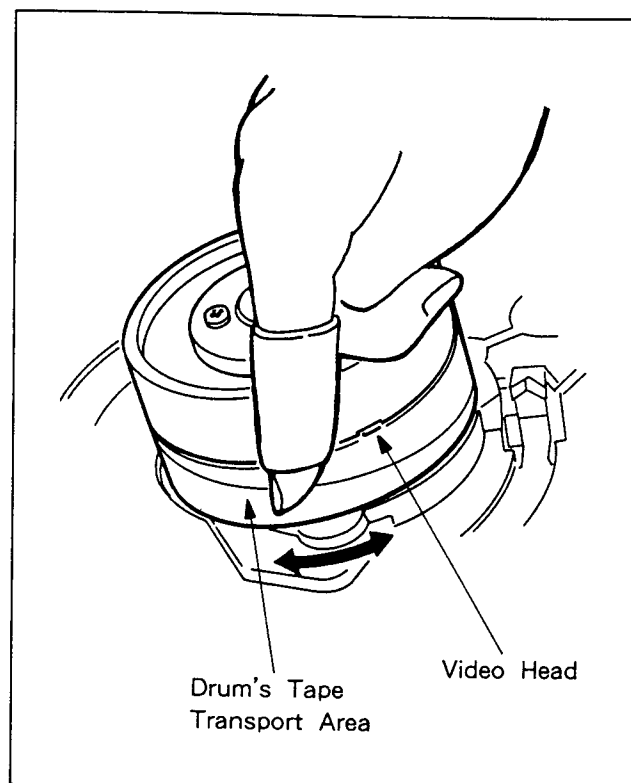

Fig. 4-1-1
- ① Drum (COMPL CYLINDER) and Video Heads (See Fig. 4-1-1.)